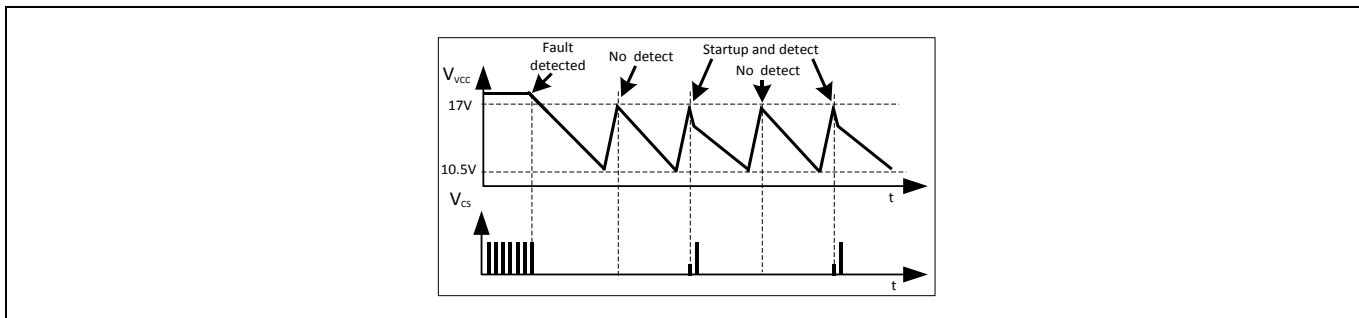

Figure 30 Odd skip auto restart waveform
Odd skip non switch auto restart mode is similar to odd skip auto restart mode except the start up switching pulses are also suppressed at the even number of the restart cycle. The detection of fault still remains at the even number of the restart cycle. When the fault is removed, the IC will resume to normal operation at the even number of the restart cycle (Figure 30).
VCC OVP (1) condition is when  $V_{VCC}$  voltage is  $> 20.5\text{ V}$ ,  $V_{FBB}$  voltage is  $> 4.5\text{ V}$  and during soft start period, the IC enters into odd skip Auto Restart Mode. This condition likely happens during start up at open loop fault (Figure 30).
Vcc OVP (2) condition is when  $V_{VCC}$  voltage is  $> 25.5\text{ V}$ , the IC enters into odd skip Auto Restart Mode (Figure 30).
In case of Overload or Open Loop, the  $V_{FBB}$  voltage exceeds 4.5 V which will be observed by comparator C4. Then the built-in blanking time counter starts to count. When it reaches 20 ms, the extended blanking time counter CT1 is activated. The switch S2 is turned on and the voltage at the BBA pin will be discharged through 500 Ω resistor. When it drops to 0.9 V, the switch S2 is turned off and the Switch S1 is turned on. Then a constant current source  $I_{chg\_EB}$  will start to charge up BBA pin. When the voltage hits 4.5 V which is monitored by comparator C11, the switch S1 is turned off and the count will increase by 1. Then the switch S2 will turn on again and the voltage will drop to 0.9 V and rise to 4.5 V again. The count will then increase by 1 again. When the total count reaches 256, the counter CT1 will stop and it will release a high output signal. When both the input signals at AND gate G5 is high, the odd skip Auto Restart Mode is activated after the 30 µs spike blanking time (Figure 30).